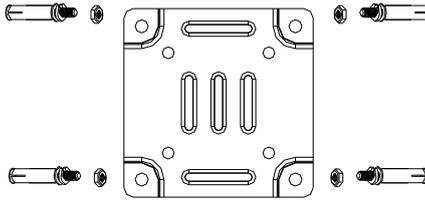

Figure 2-30 Attach the Installation Plate
3. Fix the installation plate and insert M10×80 expansion screws into the screw holes, as shown in Figure 2-30.